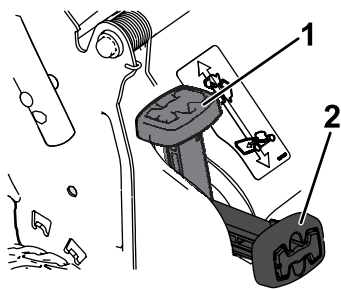

Figure 14
- **To bag the grass and leaf clippings**, press the button on the bag-on-demand lever and move the lever forward until the button on the lever pops up (Figure 14).